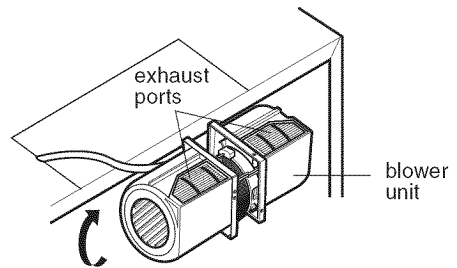

Figure 19
3. Rotate blower unit 90° so the exhaust ports face the top of the cabinet. See **Figure 19**.